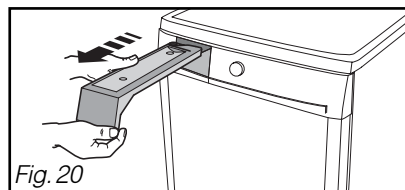

Fig. 20
- Remove the water recovery tank (see fig. 20 on the next page).
- To empty it, release it from its housing by pulling it towards you (Fig. 20).